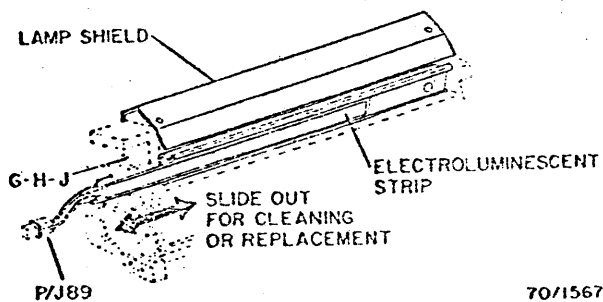

Fig. 3-213. Electroluminescent Strip and Lamp Shield
1. Unplug the E.L. Strip and slide it out of the lamp holder (Fig. 3-213).